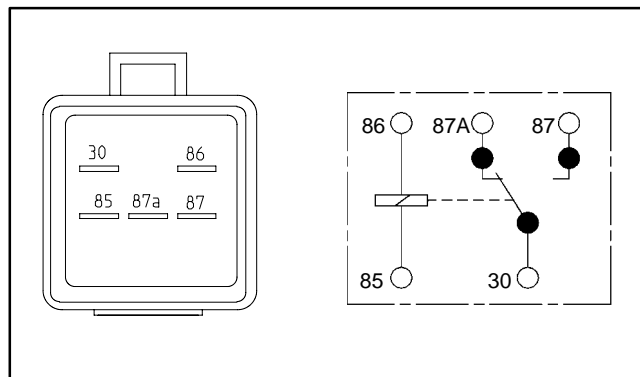

Figure 31
3. Using a multimeter (ohms setting), measure coil resistance between terminals 85 and 86 (Fig. 31). Resistance should be between 70 and 90 ohms.